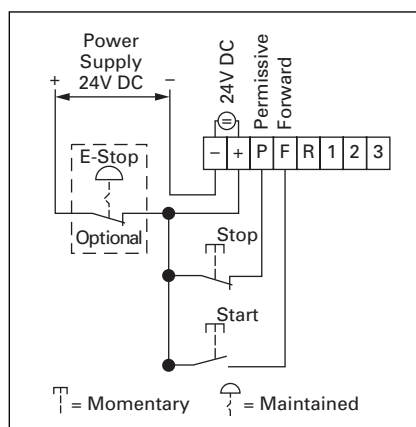

Figure 1. 3-Wire Non-Reversing
Figure 1 illustrates the connections for 3-wire control. The start contact is connected to the Forward input (F). There is a difference between an **IT.** Contactor or Starter and a typical electro-mechanical device in that a holding contact is not required to maintain the circuit when the momentary normally open start contact is released. This is a benefit of the electronic logic being used to operate the coil of the device.